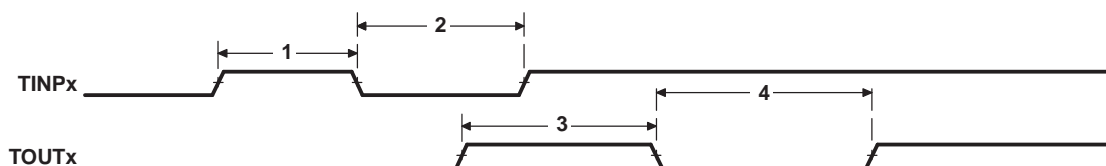

Figure 5-48. Timer Timing
5.14.1 Timing Requirements for Timer Inputs ⁽¹⁾ (see Figure 5-48)
5.15.1 Timing Requirements for GPIO Inputs^{(1) (2)} (see Figure 5-48)